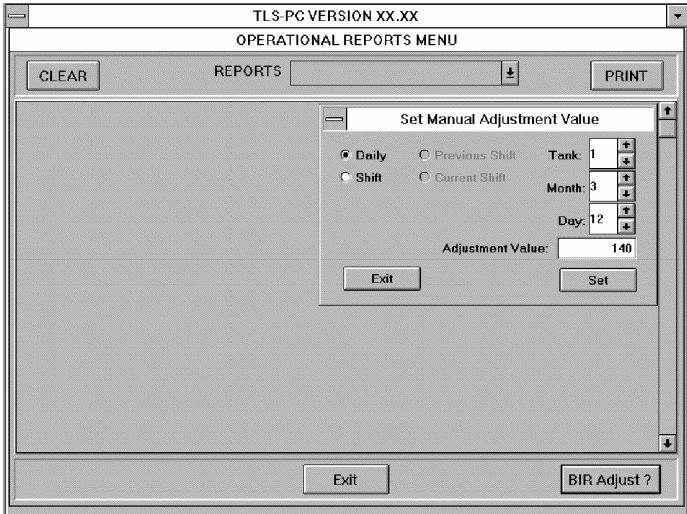

Figure 31. Set Manual Adjustment Value Window
2. Click on the **BIR Adjust?** button. The Set Manual Adjustment Value window appears on the REPORTS window [Figure 31].